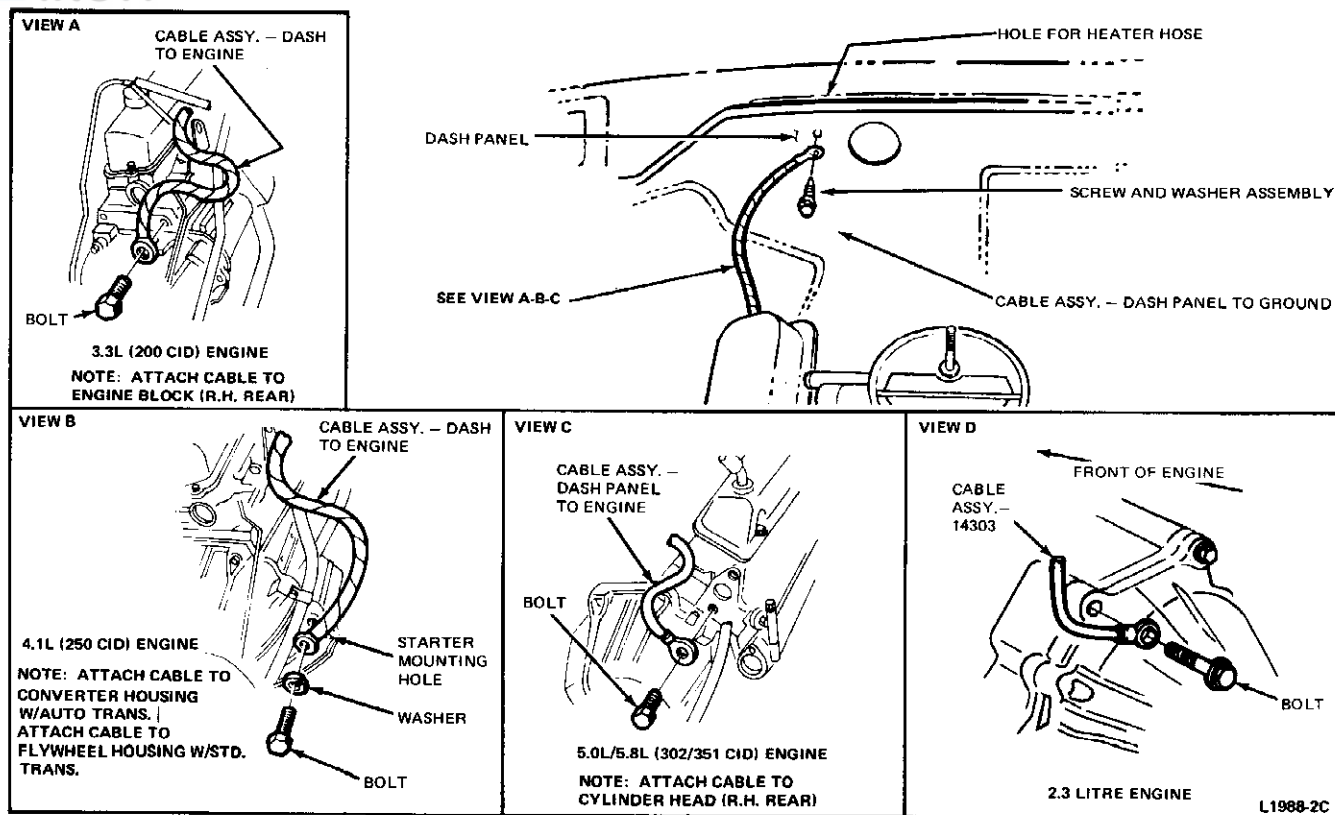

FIG. 5 Ground Cable Engine to Dash Panel—Breakerless Ignition With or Without Radio—Fairmont, Zephyr, Granada and Monarch
9. Ensure that the ground strap engine-to-dash panel is properly connected (Fig. 5).